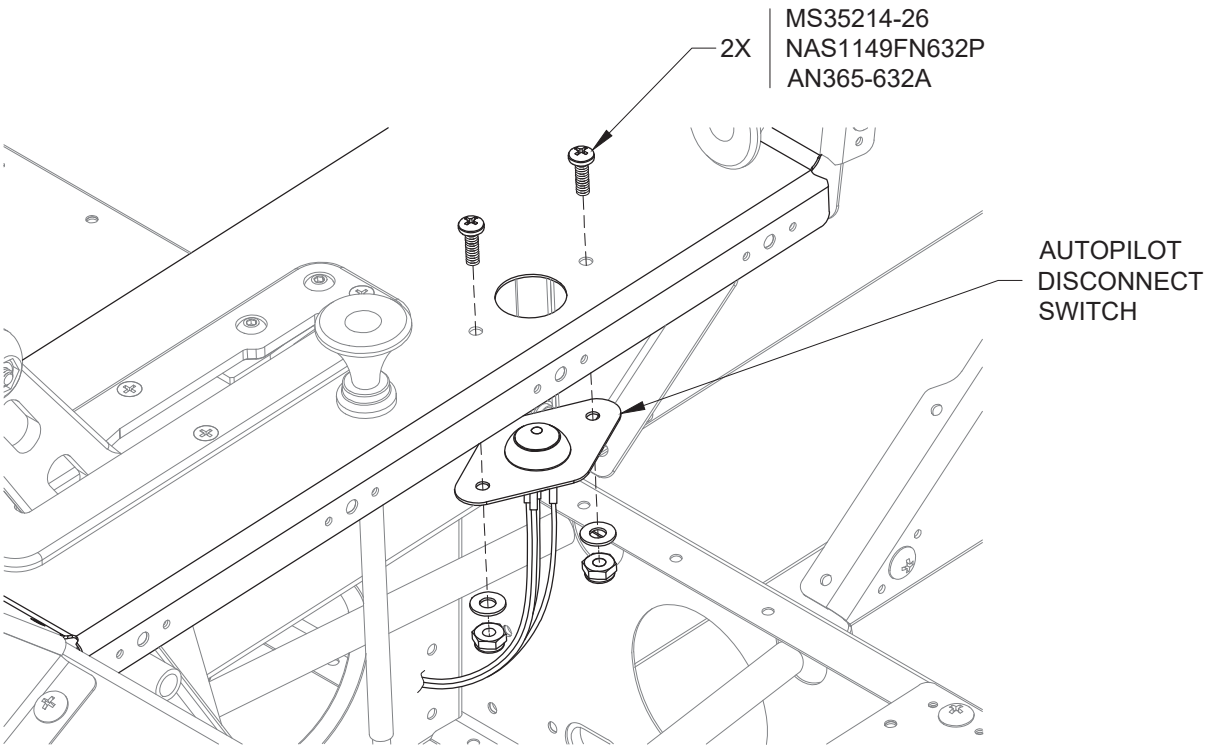

FIGURE 2: INSTALLING THE AP DISCONNECT SWITCH
Step 6: Remove the cover (not shown) over the autopilot disconnect switch mounting hole. See Figure 2.
Step 7: Locate the autopilot disconnect switch on the WH-00133-1 RV-12iS Dynon Common Harness. Cut the tie wrap securing it and attach the switch to the underside of the center console as shown using the hardware called out in Figure 2.